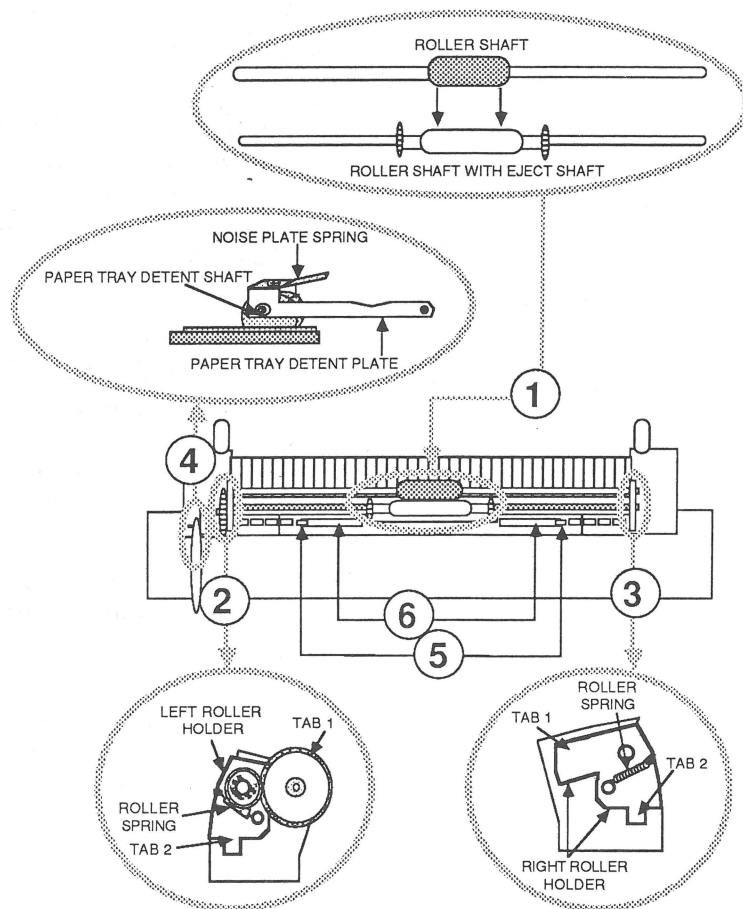

FIGURE 9
1. Locate the left and right roller holder and roller shaft. Position the roller shaft with the eject roller so that the black rubber feeder on the customer's roller shaft lines up with the middle section of the eject roller (Figure 9, #1). Place one side in the left roller holder and connect the spring (Figure 9, #2). Repeat this on the right roller holder.
2. Position the lower paper tray so it is facing you. Place the roller assembly into position (the white eject shaft should be on the bottom). Snap the roller assembly into position by lining up the four tabs (two on each side) and snap it into position (Figure 9, #2 and #3).
3. Locate the paper tray detent plate. Position the plate on the left side (Figure 9, #4). Insert the paper tray detent shaft.
4. Position the upper paper tray on the lower paper tray. Be sure the two tabs located at the front slide into the lower half (Figure 9, #5). Snap the tray into position.
5. Reconnect the paper tray locks (Figure 9, #6).
IPL.19	Shift Gear Assembly (Figure 9)
Figures 1-8 (overviews) show the orientation of different assemblies in the ImageWriter II. Figures 9 through 25 (enlarged drawings) supplement the Take-Apart section of these procedures by showing how parts fit together. (Screws and washers shown in these figures are not included in the assemblies.)